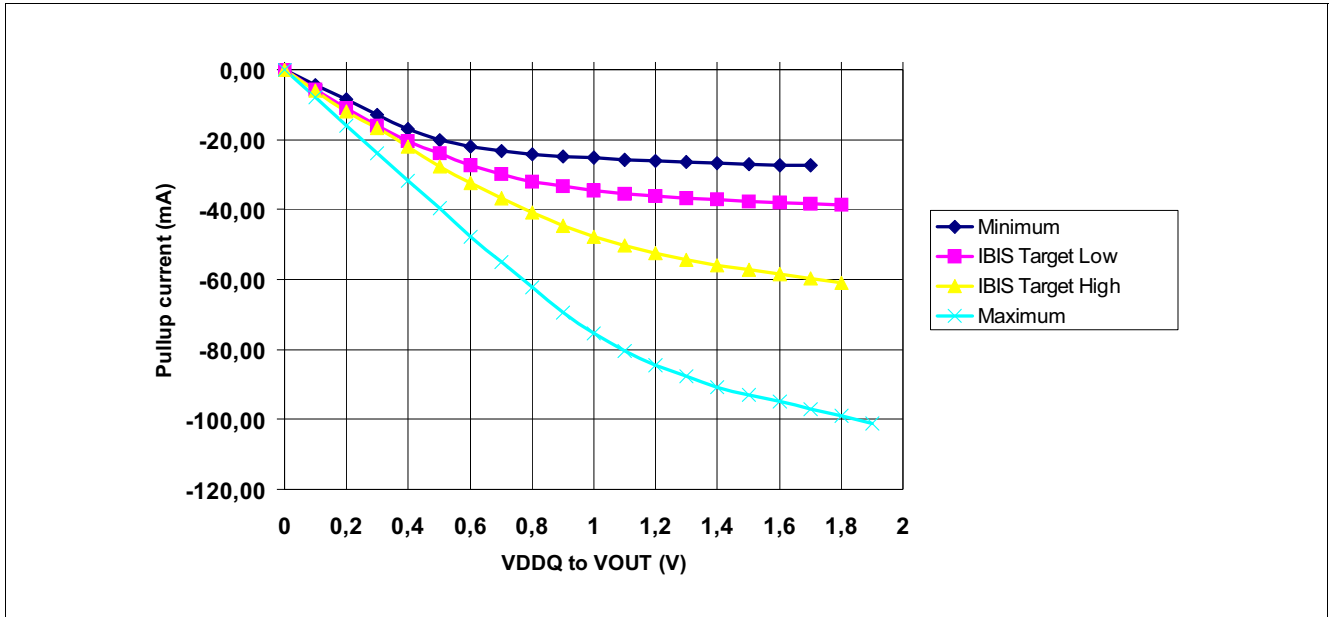
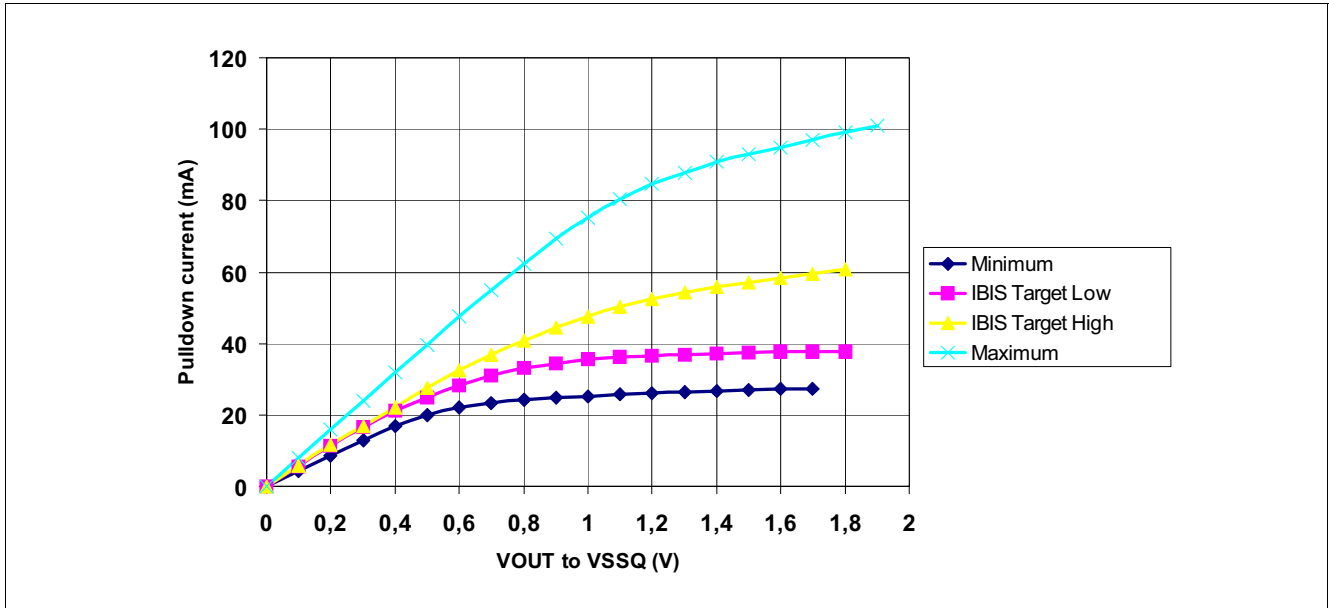

Figure 66 Full Strength Default Pull-up Driver Diagram
Figure 67 Full Strength Default Pull-down Driver Diagram
DDR2 SDRAM output driver characteristics are defined for full strength default operation as selected by the EMRS(1) bits A[9:7] = '111'. **Figure 66** and **Figure 67** show the driver characteristics graphically and the tables show the same data suitable for input into simulation tools.